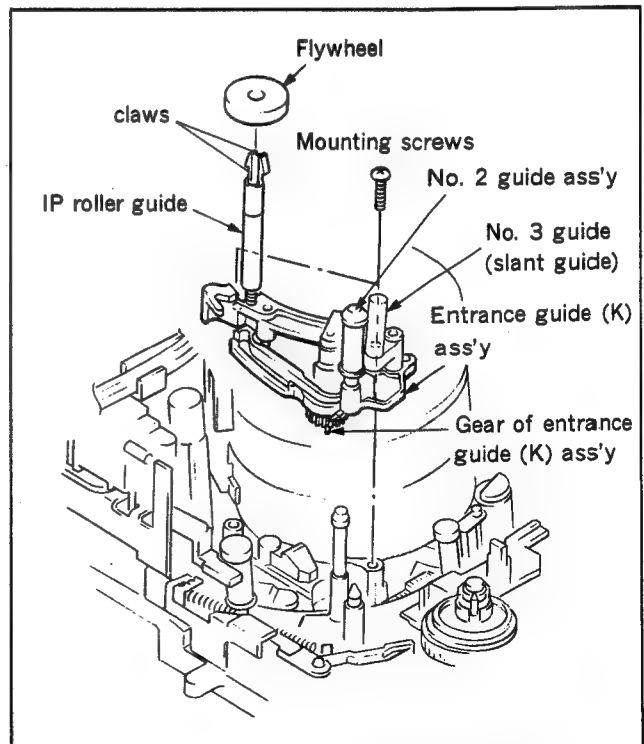

Fig. 4-11-1 Parts of entrance guide (K) ass'y
1. Flywheel removal (Fig. 4-11-1)
2. Entrance guide (K) ass'y removal
Remove the two mounting screws shown in Fig. 4-11-1. Remove the entrance guide (K) ass'y.